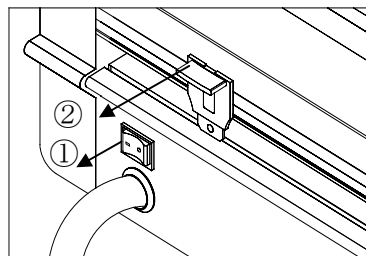

Figure 2
**FPower Switch (1)** - Located on the rear of the machine. "I" (on) "O" (off). (Fig. 2)
**Cross Cutter (2)** - Used to cut off the laminated web. (Fig. 2)
1. Turn the laminator ON (I) located on the rear of the machine. (Fig. 2)